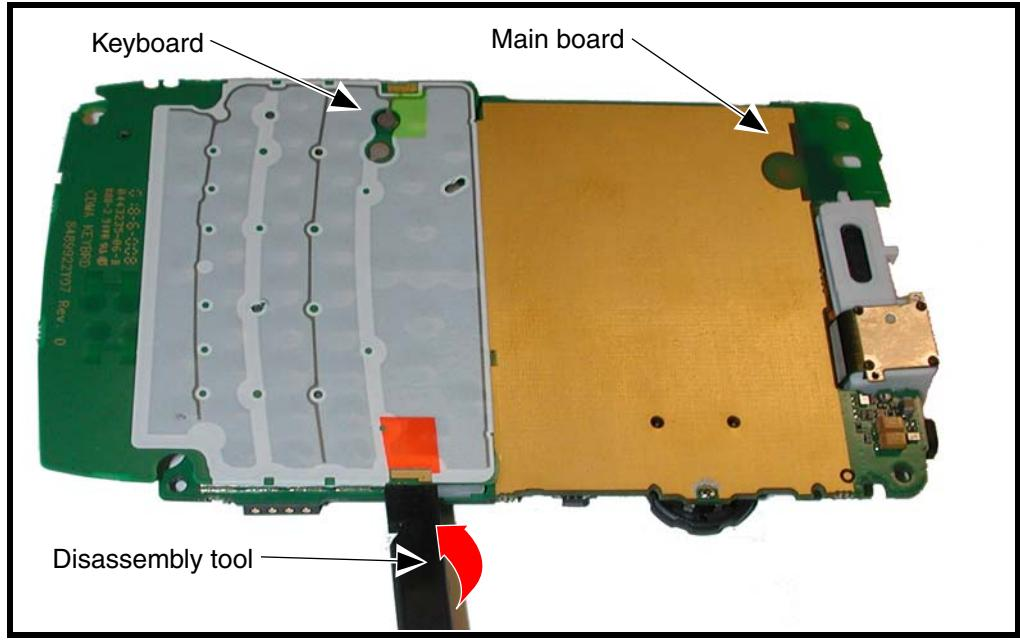

Figure 18. Removing the Keyboard
3. Insert the disassembly tool under the top of keyboard and slowly slide it under the keyboard. Once it reaches the center of the board, twist until adhesive detaches. (see Figure 18).